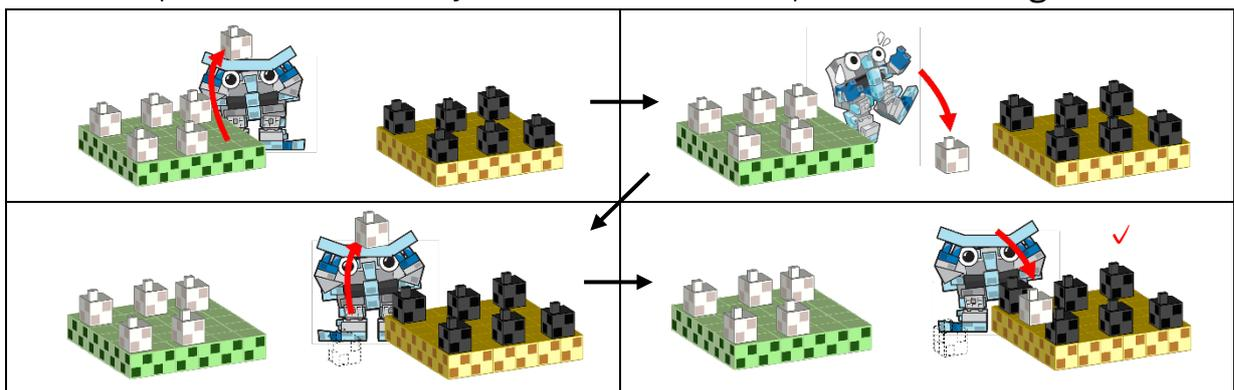

Fig 4. Dropping cargo during transport
- 9) Any piece of cargo dropped after a successful pickup, but during transport will still be awarded points if successfully delivered to the next platform (see **Fig. 4**)